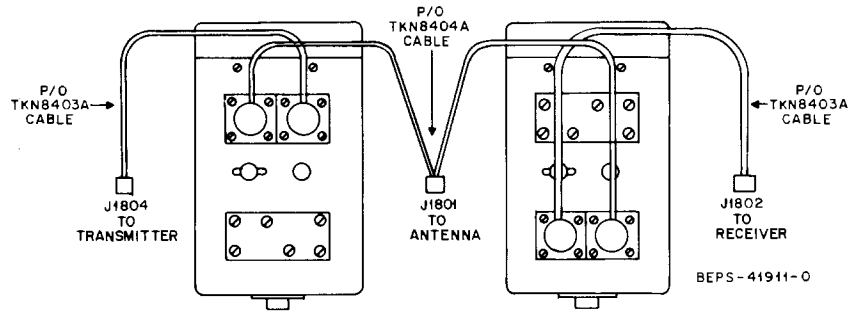

Figure 2. 2-Cavity Duplexer Cabling Detail
Step 4. Connect the duplexer to the transmitter and receiver. See Refer to Figure 2 (for 2-cavity hook-up), and Figure 12 (for 4-cavity, hook-up).